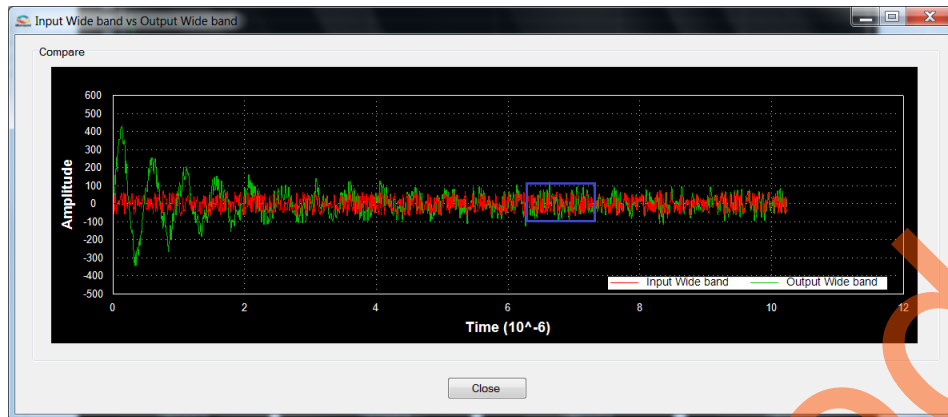

Figure 21 • Input Wide Band vs Output Wide Band
8. The plot can be zoomed in for comparison, refer to Figure 21.